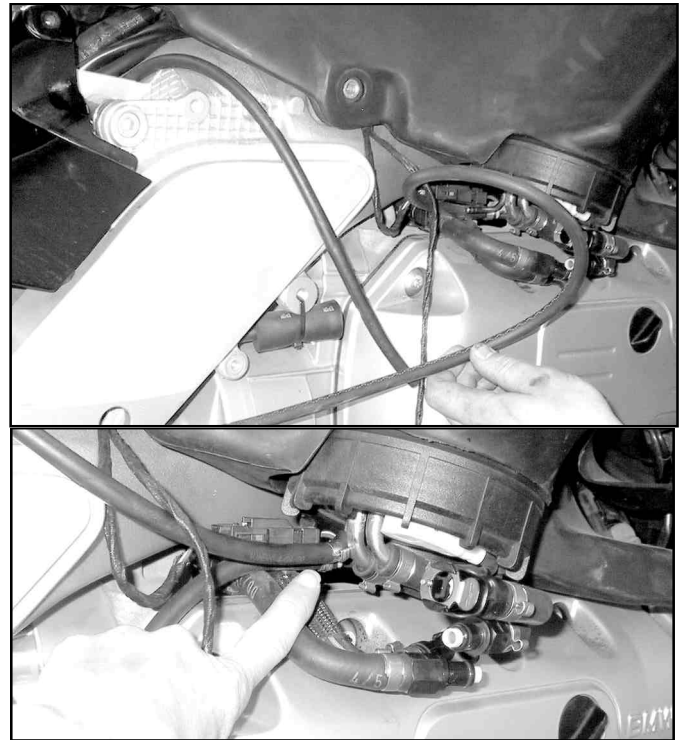

Figure 6
7. Of the two rubber hoses remaining, pull the vent hose out of the frame and disconnect the last hose from its fitting at the fuel pump. **Figure 6.**